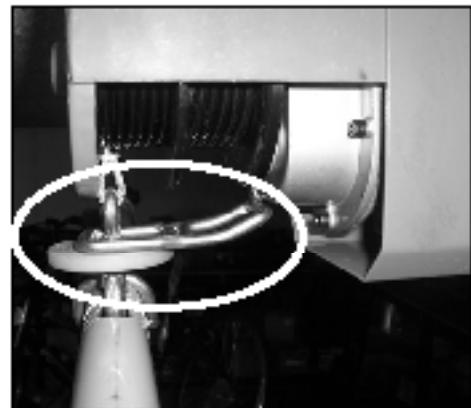

FIG. 11
- Press and hold the rocker switch on the hand control to raise and lower the platform. When the platform reaches the uppermost travel point the ring above the cable hook will trigger the limit switch ceasing upward movement. (**SEE FIG. 11**)